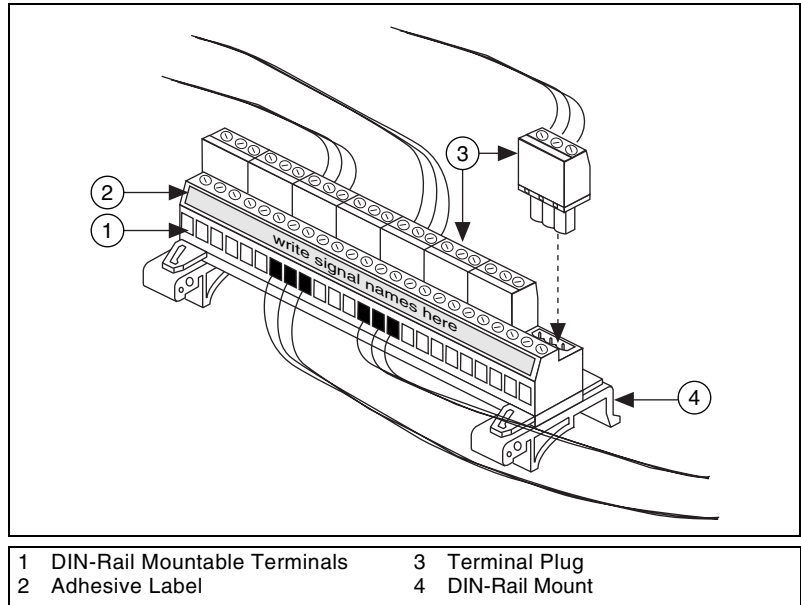

Figure 2. TBX-24F Terminal Block Components
4. Write the signal names on the adhesive labels and affix the labels to the TBX-24F terminals. Refer to Figure 2.
Figure 2 shows a unique feature of the TBX-24F. There are eight removable terminal plugs so you can disconnect field wires from the system without disconnecting them from the screw terminals. For example, you can remove the terminal plug with field wires intact and connect the field wires to another terminal block or measuring device. The terminal plugs are keyed so that you can insert them in only one direction.